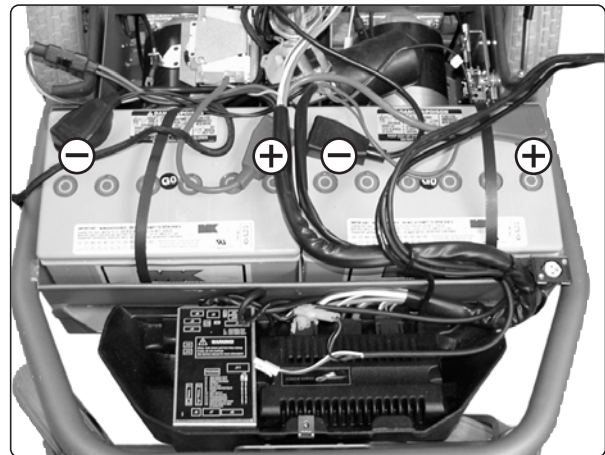

Fig.8. Battery connections.
1. Lift the batteries into position, with the terminals at the front, see fig. 8.